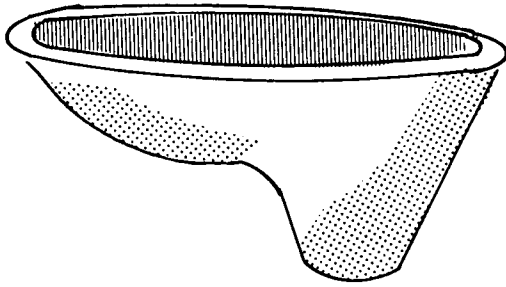

FIGURE 14. BOWL MOLD
The forms used when making a slab must stay in place until the concrete is strong enough, usually 24 hours. For this reason, many sets of forms are necessary if a reasonable number of slabs are to be cast every day. Here is where the three master molds are needed: one of them to cast the bowl core, and the other two to cast the trap core (see Figures 14 and 18).
6. After this cement has set 30 minutes, build up the thickness to 38mm (1 1/2") with 1:1 cement-sand mix. Let this set 24 hours and carefully lift the finished master bowl mold from the clay mound. The finished bowl mold is shown in Figure 14.